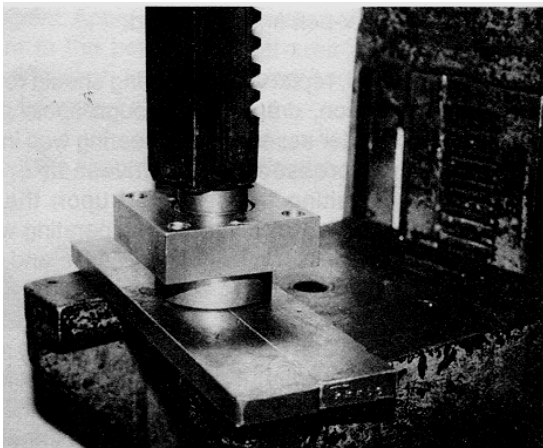

FIGURE 49
11) Position the bearing block with the bearing facing down. Determine that the bearing block and replacement bearing are both properly supported. Using the arbor press, align and press the internal hexagon bushing into the bearing block until it seats itself against the flange. FIGURE 49.